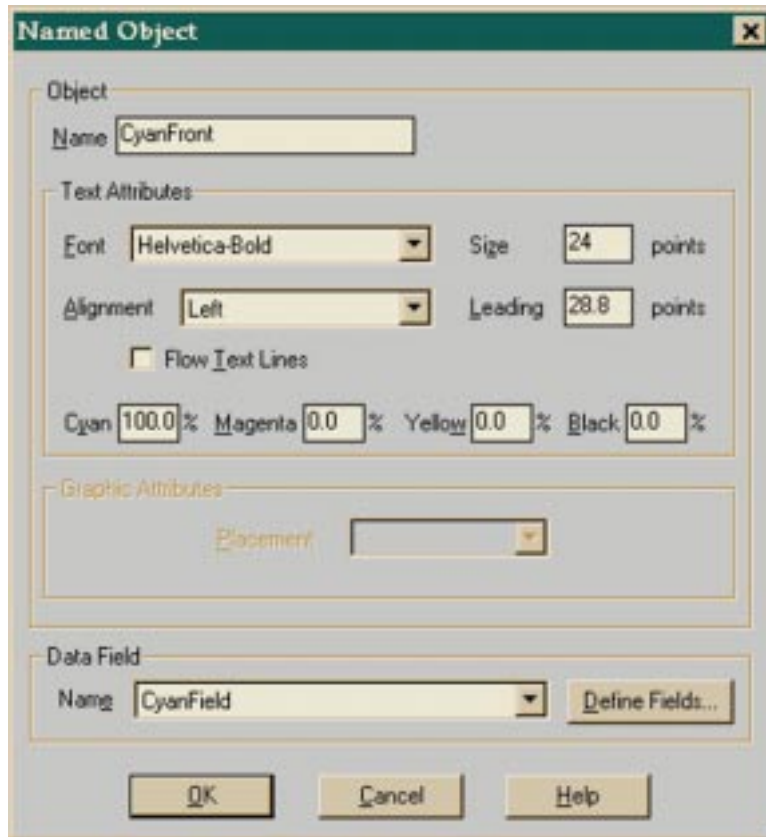

Figure 21. Named Object Dialog
4. Select the data field whose contents belong in this object. Figure 21 on page 32 shows the CyanFront text object.